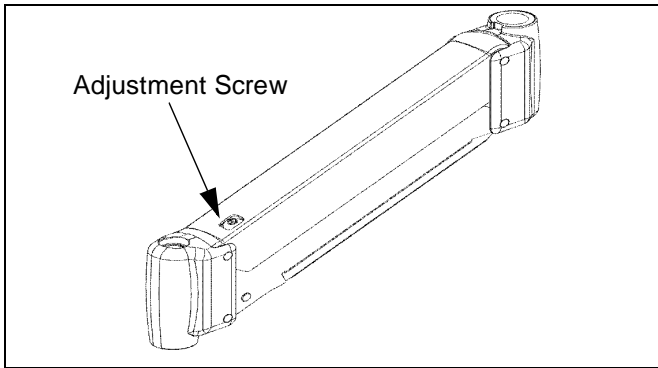

Figure 25: Height Adjustable Arm Adjustment
1. Using 5/32" hex key, slightly loosen or tighten the adjustment screw as necessary (See Figure 25).